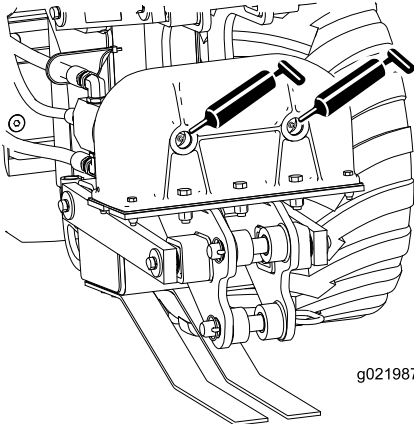
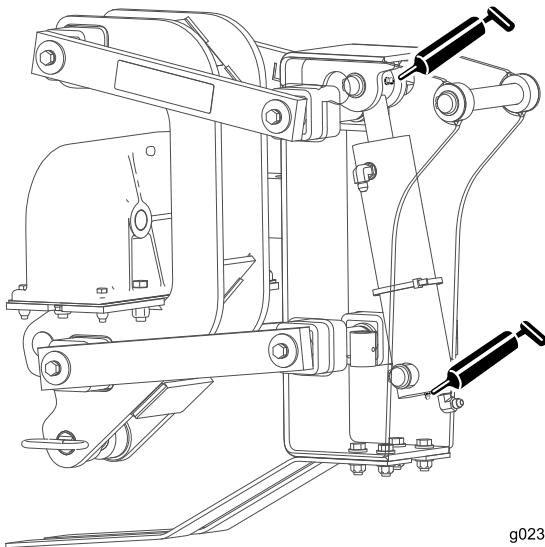

Figure 22
Figure 23
2. Connect a grease gun to each fitting (Figure 22, Figure 23, and Figure 24).